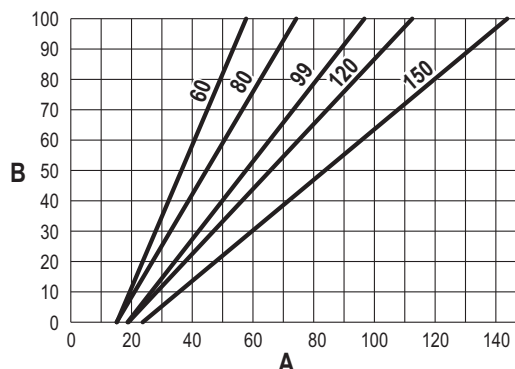

fig. 77
- Press the **contextual buttons 1 and 2** to increase or decrease the heating capacity (minimum = 00 - maximum = 100). See the diagram "Heating Capacity Adjustment" (fig. 77).